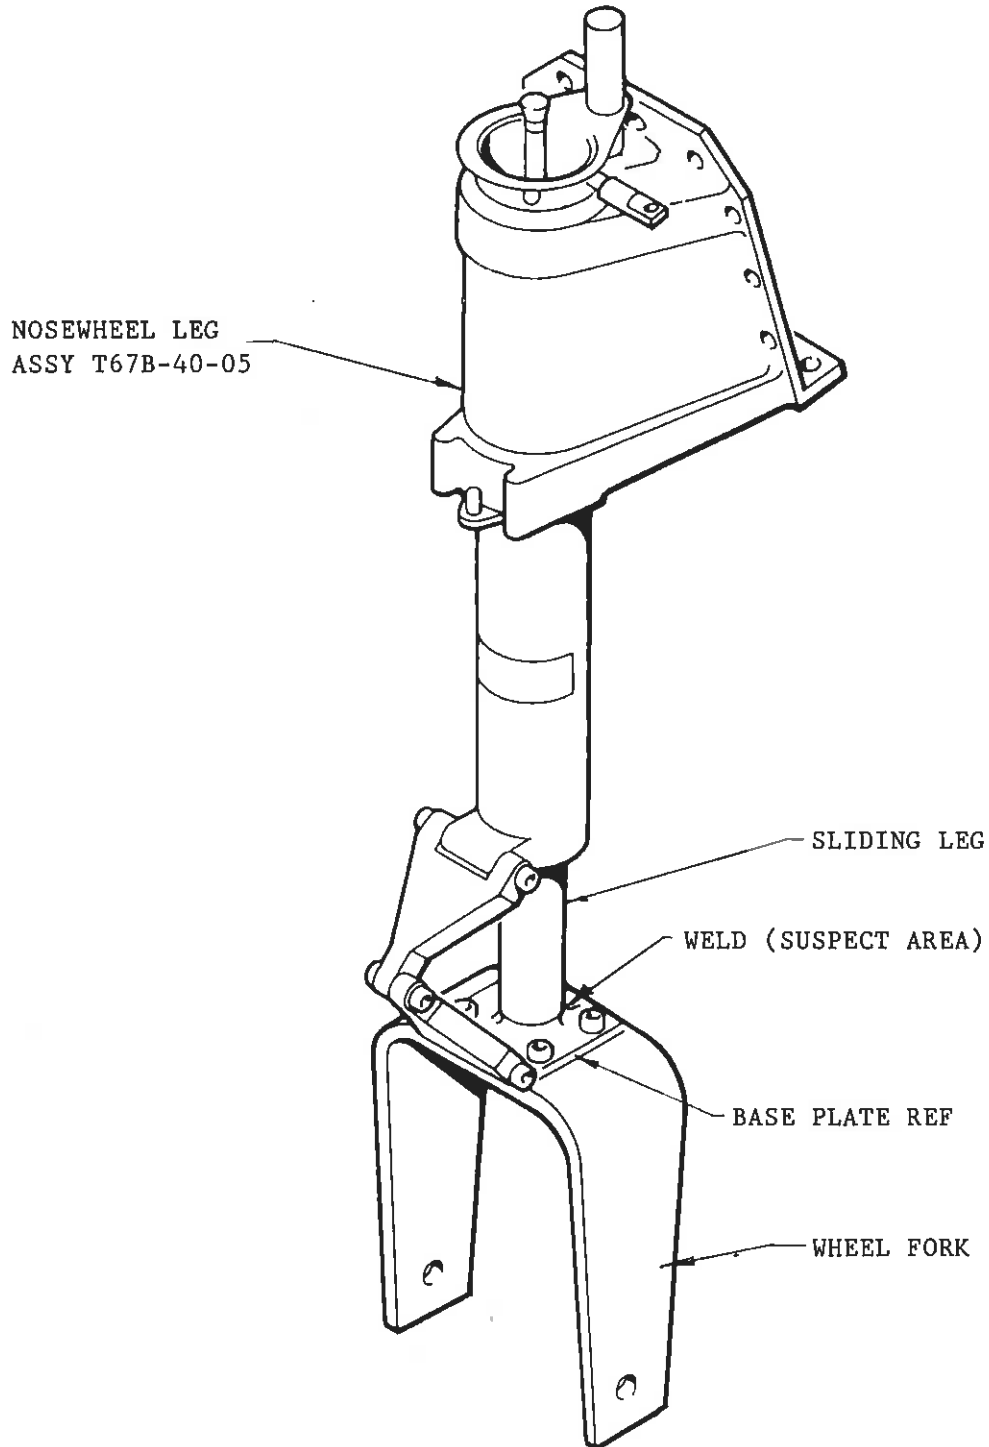

FIG 1
Several cases of cracking of the weldment at the lower end of the nose undercarriage sliding leg have been reported recently, and in 2 cases the welded joint has failed - see Fig. 1 for location.
- 1.1 With reference to Fig. 1 examine the plate welded to the lower end of the inner, sliding, leg. If this plate is circular with 6 bolts securing the nose-wheel fork, then this S.B. does not apply.